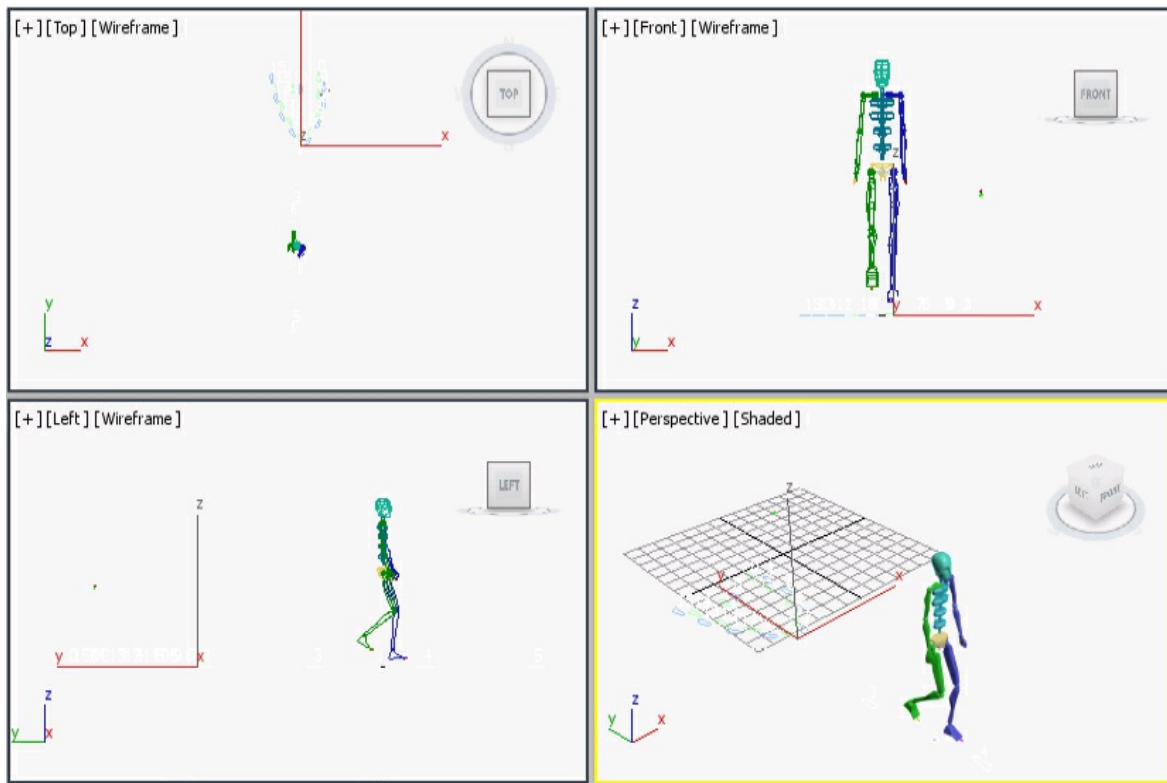

Figure 15-40 The running biped model in viewports
25. Activate the Perspective viewport and choose the **Play Animation** button; the biped model starts running, as shown in Figure 15-40.